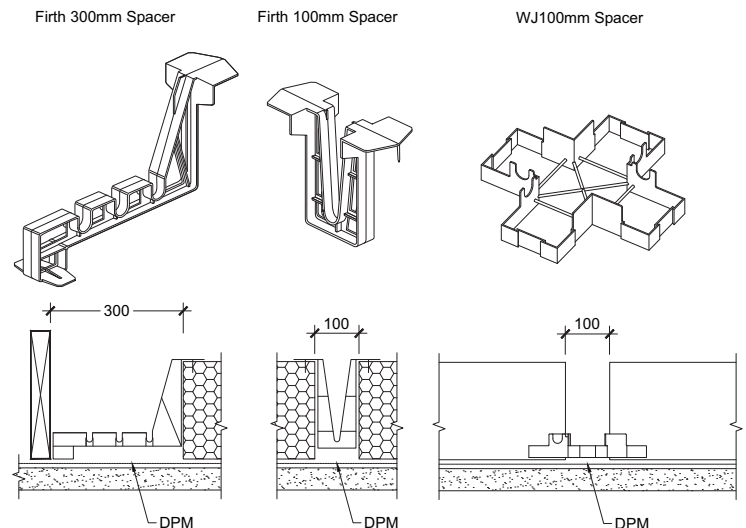
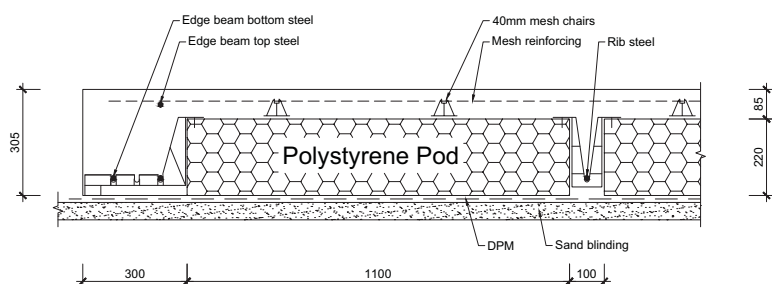

Figure 9 Spacer Details
Figure 10 Detailed Section
Rib reinforcing steel shall be placed in the bottom of the internal ribs and supported in the correct position by the Firth or Wilton Joubert spacers (WJ). Figure 9 shows the detail of the Firth and WJ spacers, and Figure 10 shows a detailed section identifying how the steel is located in the spacers. The 300mm spacer shall be used for the 300mm wide internal ribs. These spacers ensure that cover to DPM below the base is greater than 45mm and cover to the exterior perimeter is 75mm.